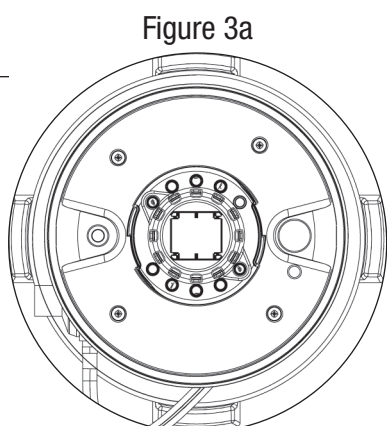

Figure 3a
13. Position the ring so it points to your environment. (Figures 3a, 3b and 3c).